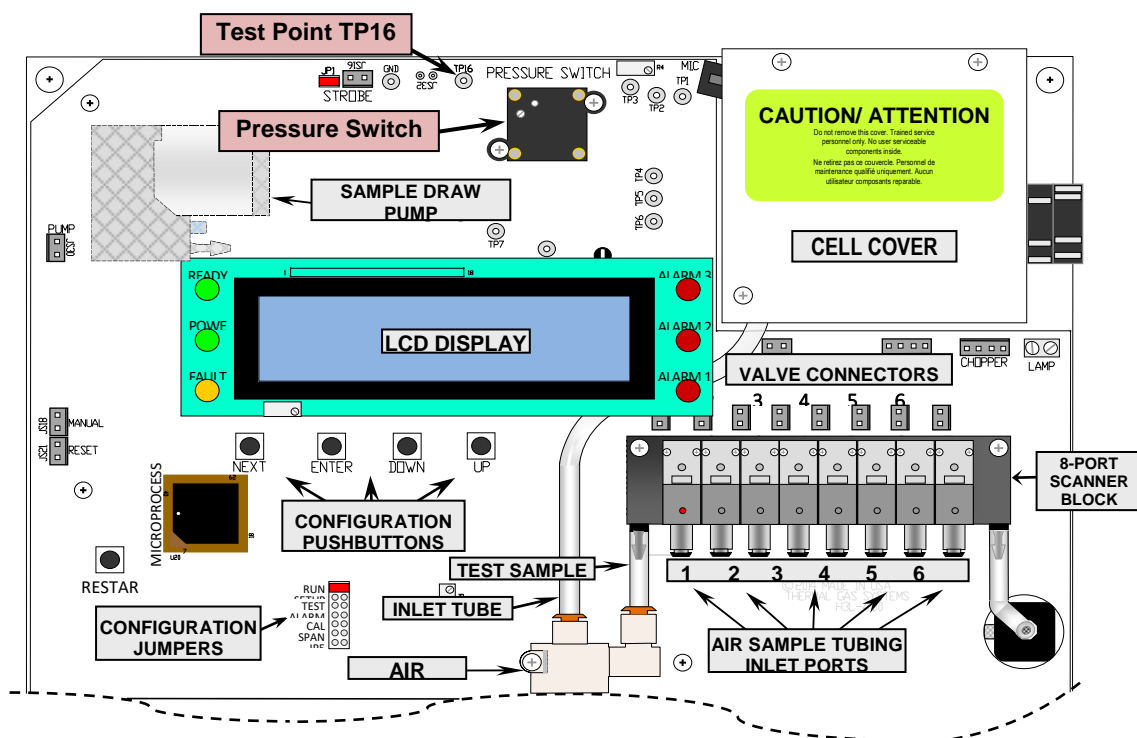

Figure 2 Haloguard III/ IR Printed Circuit Board With 8-Port Scanner
Refer to *Figure 2: Haloguard III Printed Circuit Board With 8-Port Scanner.*
4) The pressure switch may have failed. (For Location refer to *Figure 2 Haloguard III/ IR Printed Circuit Board With 8-Port Scanner*)